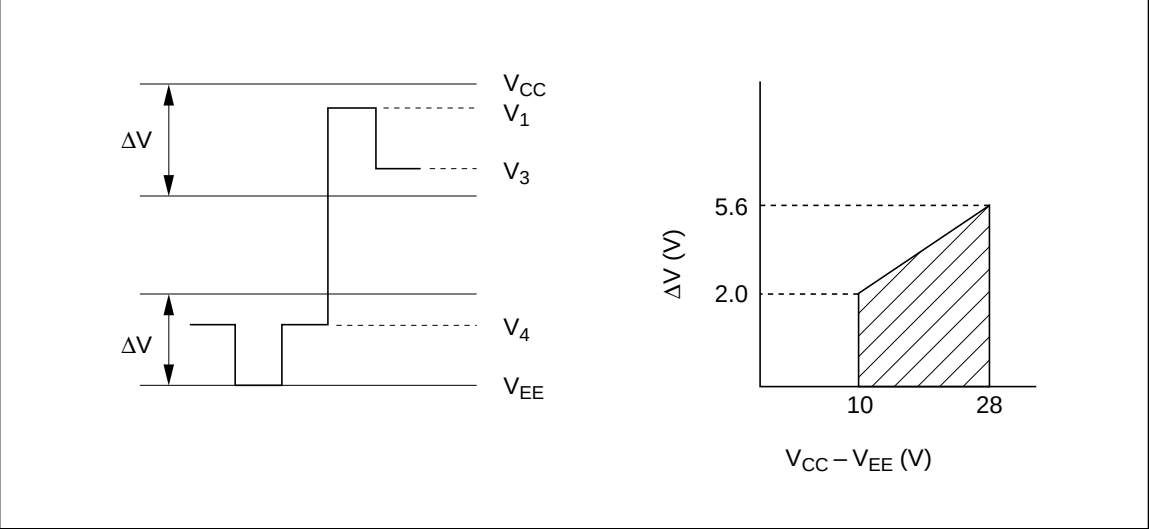

Figure 3 Relationship between Driver Output Waveform and Level Voltages
- Describes the voltage range for the liquid-crystal drive level power supply. A voltage near V_{CC} is supplied to V₁ and V₃. A voltage near V_{EE} is supplied to V₄. Use within the range of ΔV for each. These ranges should be set so that the impedance ROM of the driver output obtained is stable. Note also that ΔV depends on the power supply voltage ($V_{CC} - V_{EE}$). See figure 3.
- Describes the voltage range for the liquid-crystal drive level power supply. A voltage near V_{CC} is supplied to V_1 and V_3 . A voltage near V_{EE} is supplied to V_4 . Use within the range of ΔV for each. These ranges should be set so that the impedance ROM of the driver output obtained is stable. Note also that ΔV depends on the power supply voltage ($V_{CC} - V_{EE}$). See figure 3.